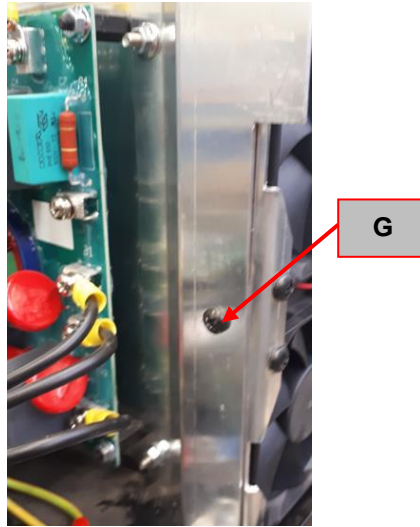

Figure 48
11. Using the PH02 screddriver remove the screw (G). See **Figure 48**